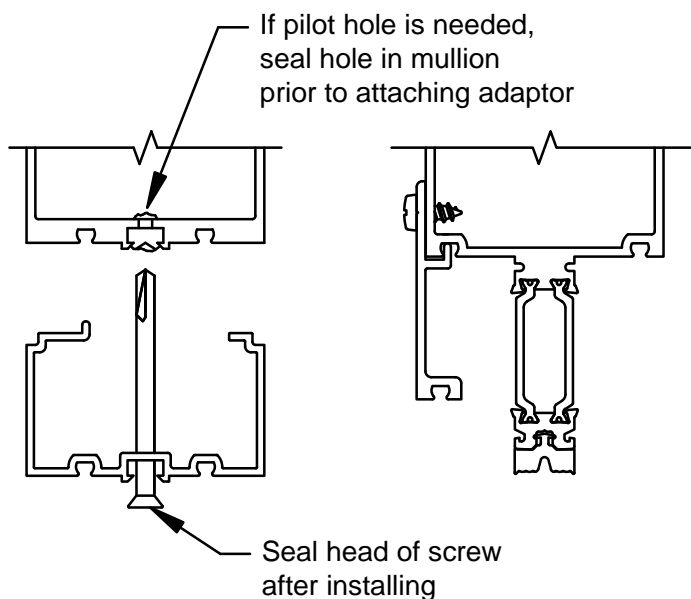

FIGURE 20
- A.2 For SSG mullions, install locator leg into one of the glazing reglets. Secure to mullion with #10 x 2 1/2" (1 3/4" glazing) and #10 x 3" (2" glazing) Phillips Flat Head screw 3" from the ends and 12" O.C. SEE FIGURE 20.